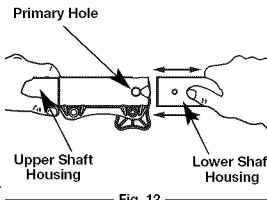

Fig. 12
3. While firmly holding the upper shaft housing, pull the cutting attachment or add-on straight out of the EZ-Link™ coupler (Fig. 12).
2. While firmly holding the add-on, push it straight into the EZ-Link™ coupler (Fig. 12).